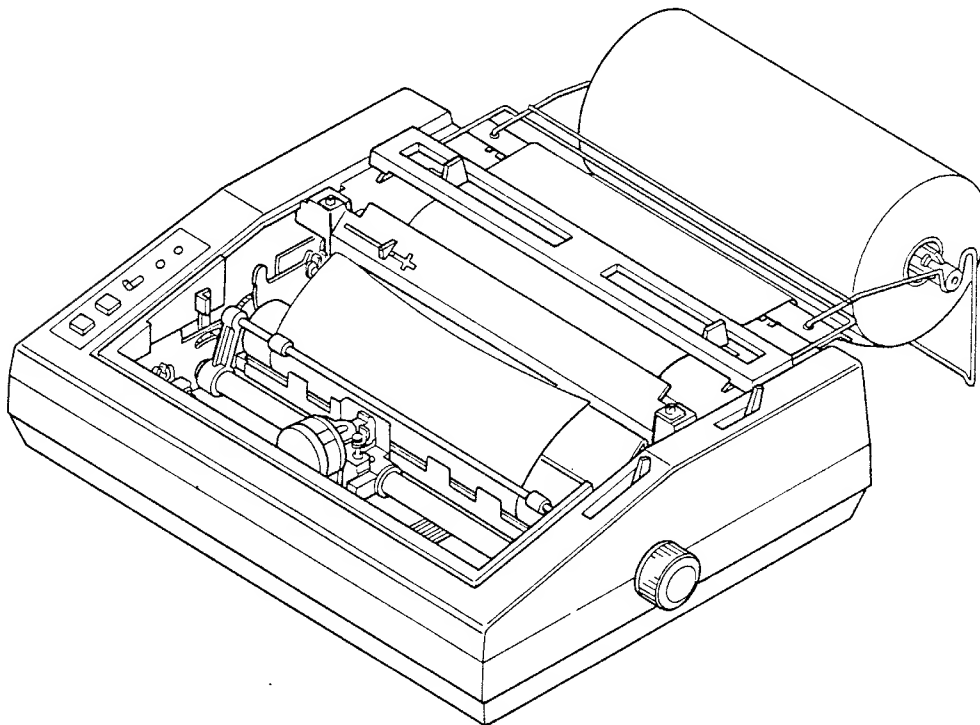

Figure 7. Roll Paper Installation
5. Move the Print Head Control Lever away from the Platen. Refer to Figure 7.